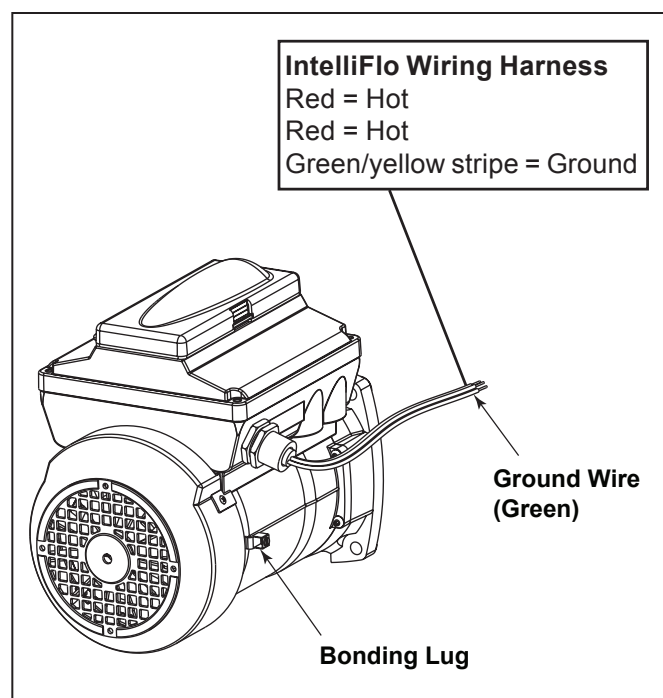

Figure 7. Pentair External Bonding
6. Permanently ground the motor using the green ground wire, as shown in Figure 7. Use the correct wire size and type specified by National Electrical Code (NEC) and the Canadian Electrical Code (CEC). Make sure the ground wire is connected to an electrical service ground.
7. Bond the motor to the pool structure in accordance with the National Electrical Code (NEC) and the Canadian Electrical Code (CEC). Use a solid No. 8 AWG or larger copper conductor. Run a wire from the external bonding lug to the pool bonding structure, as shown in Figure 7.
8. Connect the two red hot wires of the pump to the two load side connections on the filter pump relay as shown in Figure 7.